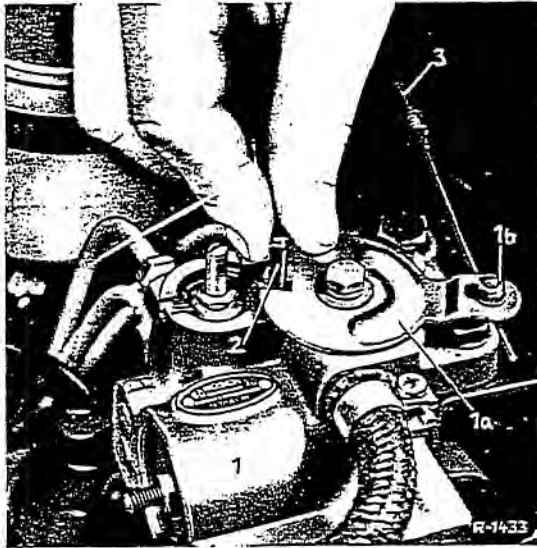

Fig. 32-18/3
- (D) Connection for electric pressure indicator for warning lamp
- (V) Screw plug for exhaust air from front axle
- (H) Screw plug for exhaust air from rear axle
7. Connect the cable for the valve unit to the lever (1a). To do this, push the push-pull button on the instrument panel in completely and secure the lever on the valve unit by means of a 5 mm  $\phi$  pin in "Drive Position" (Fig. 32-18/3).